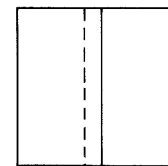

Figure 2.7
- Position the metal so that the joint to be welded is in the vertical position. (See Figure 2.7.)